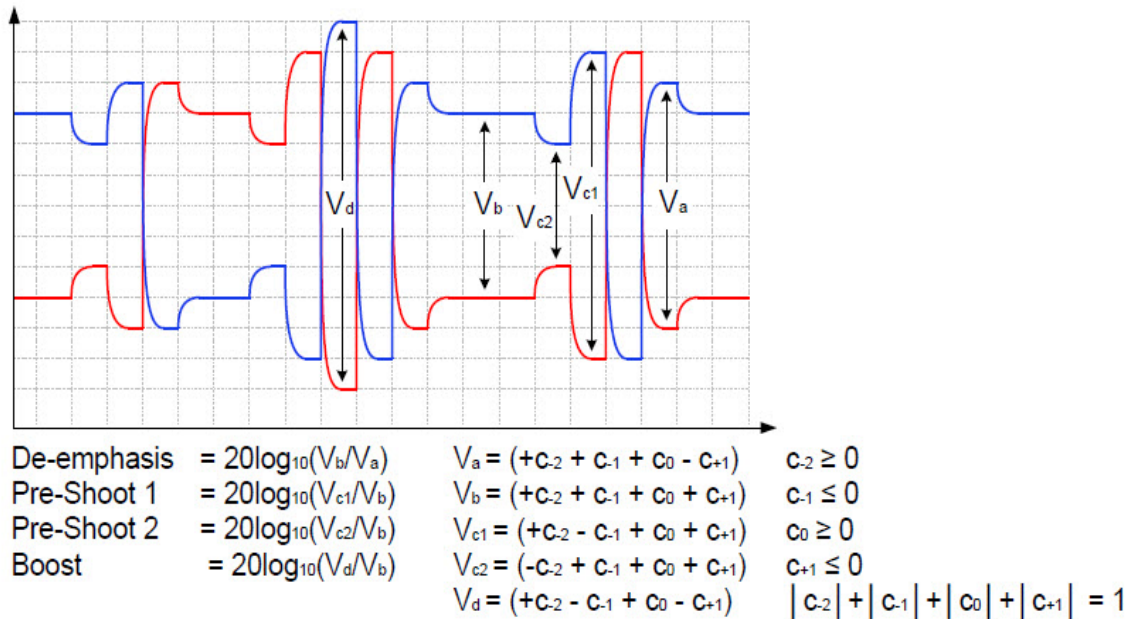

Figure 29 Waveform measurement points for preshoot and de-emphasis
64.0 GT/s PCIe signaling must support the full range of presets given in Table 8-2 (PCI Express Base Specification Revision 6.0). Presets are defined in terms of ratios, relating the pre-cursor and post-cursor equalization voltages. The pre-cursor (V_c) is referred to as pre-shoot, while the post-cursor (V_b) is referred to as de-emphasis. This convention permits the specification to retain the existing 2.5 GT/s and 5.0 GT/s definitions for Tx equalization, where only de-emphasis is defined, and it allows preshoot and de-emphasis to be defined such that each is independent of the other. The tolerances in Table 8-1 (PCI Express Base Specification Revision 6.0) also apply to 2.5 and 5.0 GT/s de-emphasis. The maximum swing, V_d , is also shown to illustrate that, when both c_{+1} and c_{-1} are nonzero, the swing of V_a does not reach the maximum as defined by V_d . The high frequency nature of PCIe signaling makes measurement of single UI pulse heights impractical. Consequently all amplitude measurements are made with low frequency waveforms as shown in Figure 29.
- 13 Computes their equalization voltages by using Matlab, and then calculates equalization ratios by using the formulae stated in Figure 29 (Figure 8-6 of the spec).